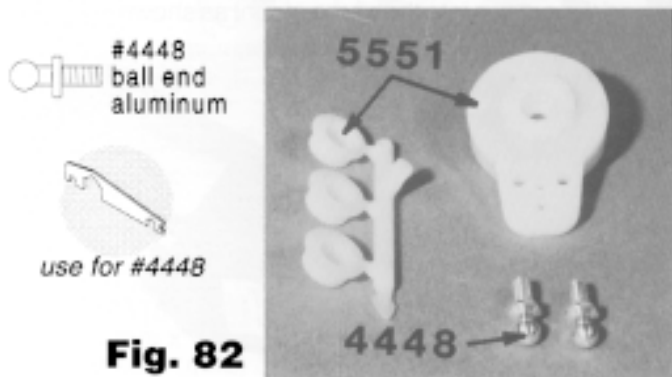

Fig. 82
□ **Fig. 82** In bag 2 you will also find the #8445 Kimbrough servo saver and adapter mounts and two #4448 aluminum ball ends. Screw the two aluminum ball ends into the two outside holes on the servo saver. Find the appropriate adapter for your servo and install it on the servo. Now install the servo saver onto the adapter. Do not completely tighten the servo saver mounting screw until after you have installed the radio and centered the servo trim.